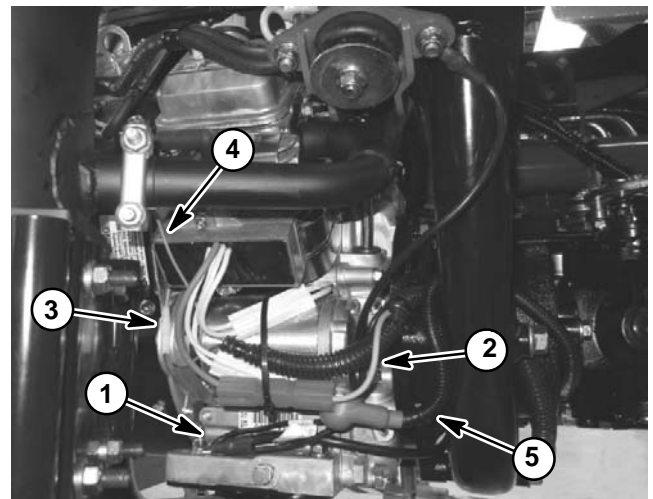
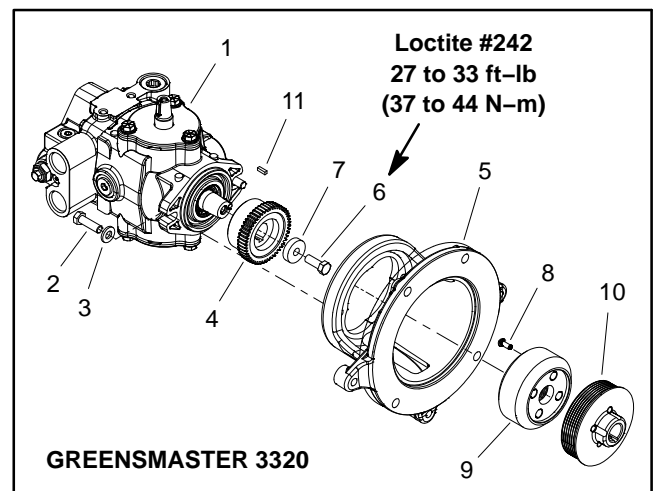

Figure 11
Figure 12
6. Loosen and remove cap screw (item 5), flat washer (item 22), lock washer (item 20) and flange nut (item 6) that secure wire harness ground connectors to engine assembly (location shown in Fig. 11).
- A. Alternator wire (from regulator/rectifier) (Fig. 11)
- B. Fuel solenoid (Fig. 11)
- C. Magneto (Fig. 11)
- E. Starter motor (Fig. 11)
10. Remove four (4) cap screws (item 13) that secure engine assembly to pump mount (item 12).
11. Carefully move the engine assembly away from the pump mount to slide the engine coupling/pulley off the pump coupling (Fig. 12). Once the engine has cleared the coupling, remove the engine from the machine.
4. Position and support engine so that the coupling/generator pulley assembly is aligned with the pump coupling (Fig. 12).
5. While supporting the engine to maintain alignment, carefully move the engine toward the pump mount to slide the engine coupling/pulley onto the pump coupling. Route generator belt to pulley as engine is being moved into place. Once the engine contacts the pump mount, align mounting holes and secure engine to pump mount with four (4) cap screws (item 13). Torque cap screws from **25 to 38 ft-lb (34 to 51 N-m)**.
7. Secure wire harness ground connector to engine assembly with cap screw (item 5), flat washer (item 22), lock washer (item 20) and flange nut (item 6) (location shown in Fig. 11). Make sure that lock washer is positioned between ground connector and engine flange to ensure ground connection to engine.